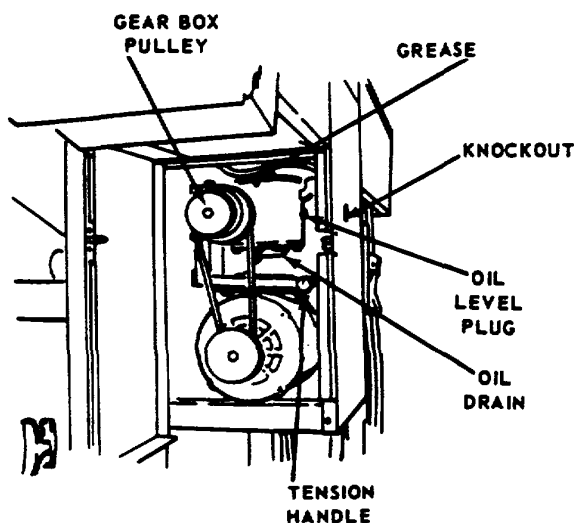

FIGURE 83
- (1) Gear box.
- (a) See figure 83 Grease upper bearing every 6 months with MIL-G-25013D.
- (b) See Figures 83 and 84. Change oil every year with MIL-L-2105C. Fill reservoir through oil filter hole to level of oil level plug (see Figure 83) so oil is even with bottom of gear box pulley shaft.
Do not fill above oil level plug (see figure 83); oil will leak around the shaft of the gear box pulley.